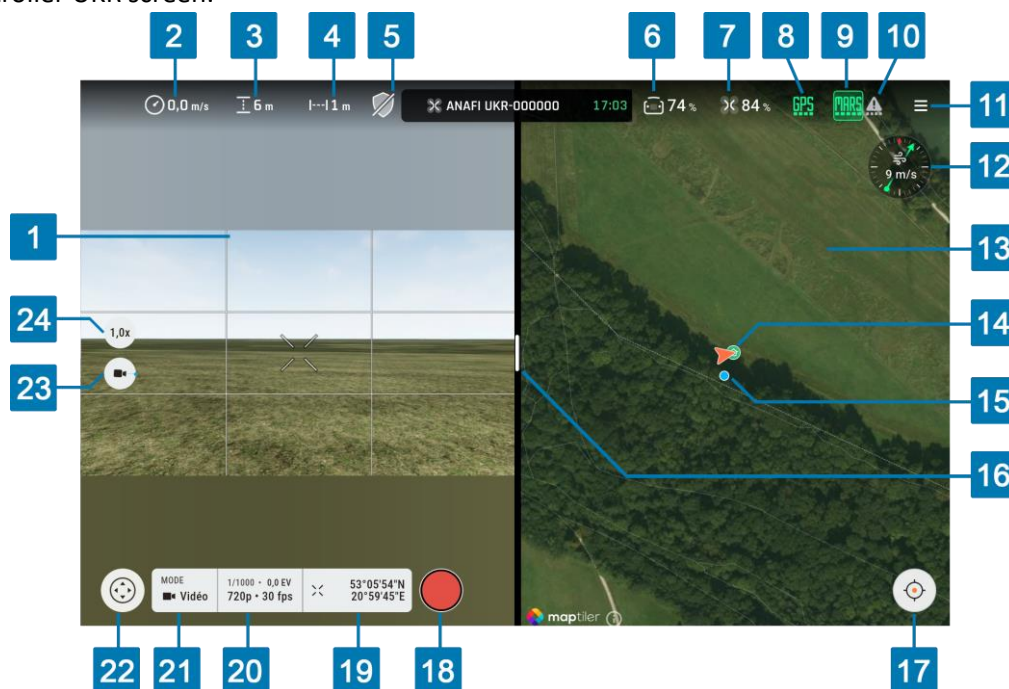

Figure 24: FreeFlight 8 main HUD
- the Streaming view (No. 1 in Figure 24),
- the Map view (No. 13 in Figure 24).
Drag the Split view slider (No. 16 in Figure 24) to the left or to the right to adjust the size of the streaming view and the map view.
At the bottom of the main flight view, users can select the flight mode (No. 22 in Figure 24), configure imaging modes (No. 21 in Figure 24), and center the map view (No. 17 in Figure 24).